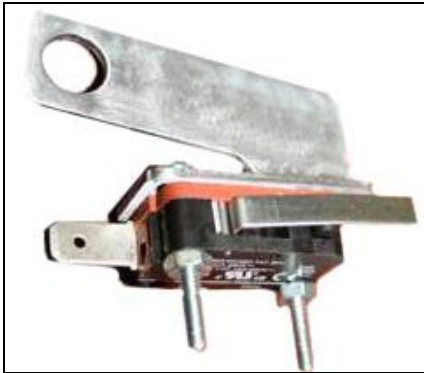

Figure 8
2. Loosely mount the microswitch to the microswitch bracket. In the driver's compartment, remove lower left throttle pedal bracket bolt and slip bracket behind pedal assembly until bracket bolt lines up with the removed bolt hole. Re-install bolt. Adjust microswitch position on the bracket until a repeatable trigger is configured when the throttle pedal reaches 90-100% throttle. Tighten microswitch to bracket. (**Figures 8 & 9**)